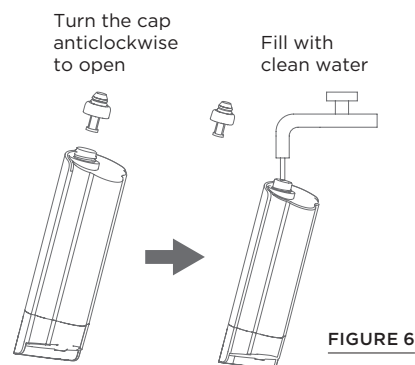

FIGURE 6
5. Turn clean water tank upside down and insert into mainbody. (Figure 6)